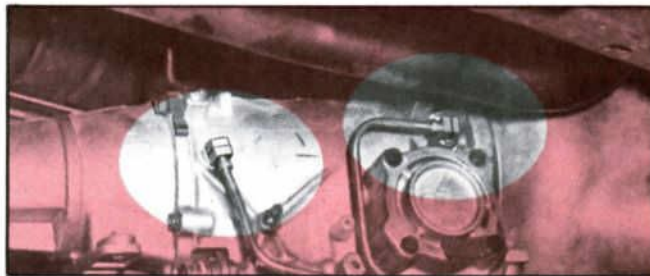

Figure 6
- Carefully lower the transmission and cooler lines so that the fittings will be accessible just below the muffler inlet pipe (if pipe was not disconnected) as shown in Figure 6.
- Raise transmission into position so that the cooler fittings are just below the exhaust pipe as shown in Figure 6.